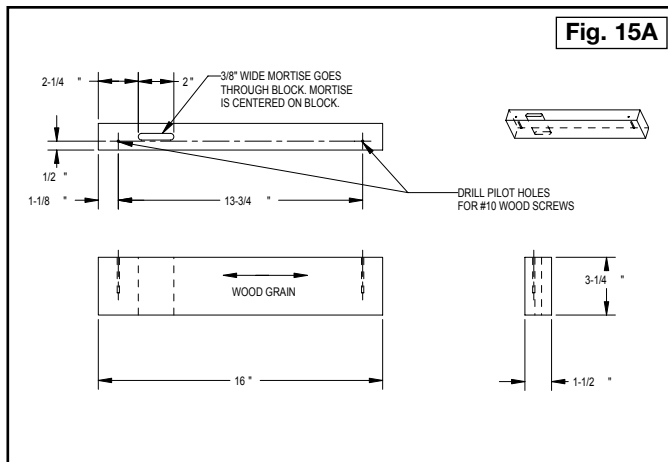

Fig. 15A
**Step 1** - Make a main clamping board 1-1/2" x 3-1/4" x 16". Square all of the sides. Make a mortise through the board and drill pilot holes for #10 wood screws (Fig. 15A).